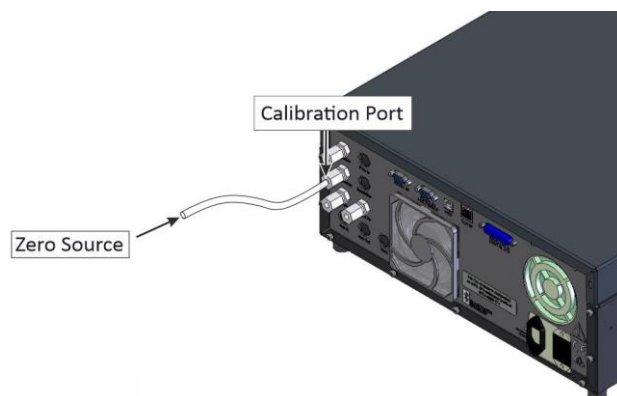

Figure 115 – Zero Calibration Set-up - 1
- Refer to Figure 115. Ensure a suitable zero air source is connected to the **Calibration Port**.